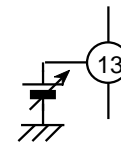

Fig.2
5. Switth(Pin13) can be changed by supplying some voltage as Fig.2.